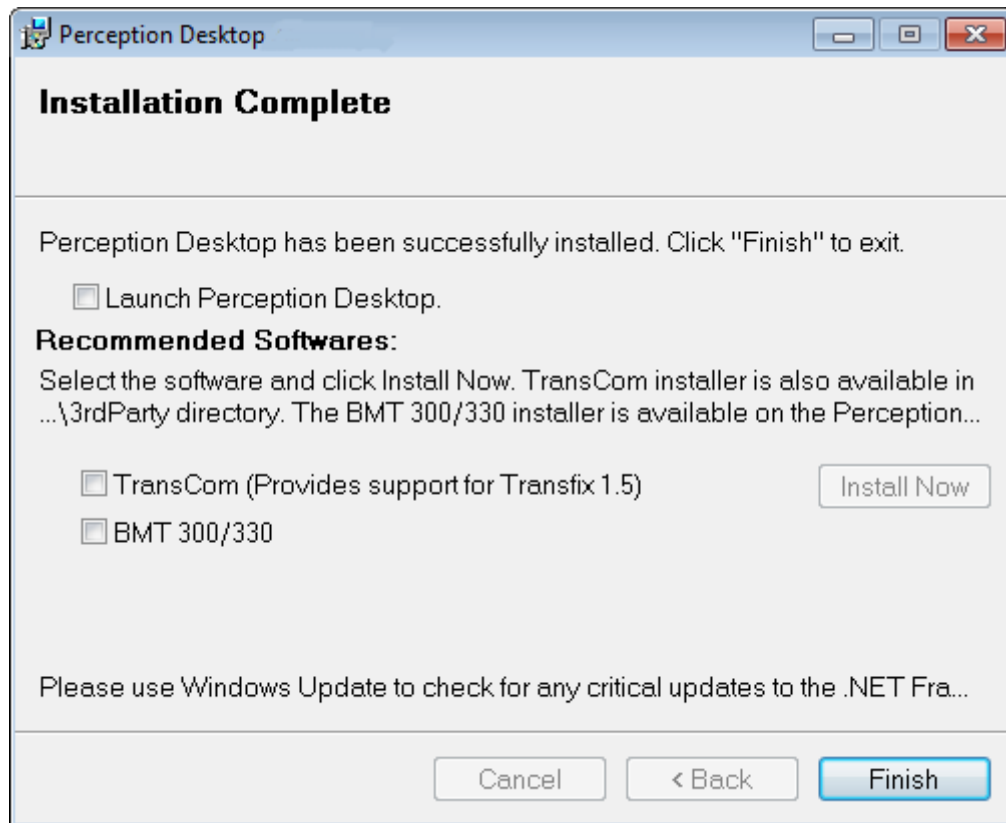

Figure 2-6: Installation Complete
2.2.6 The Setup Wizard completes the installation and presents the following message as shown in Figure 2-6. Click **Finish** to exit.